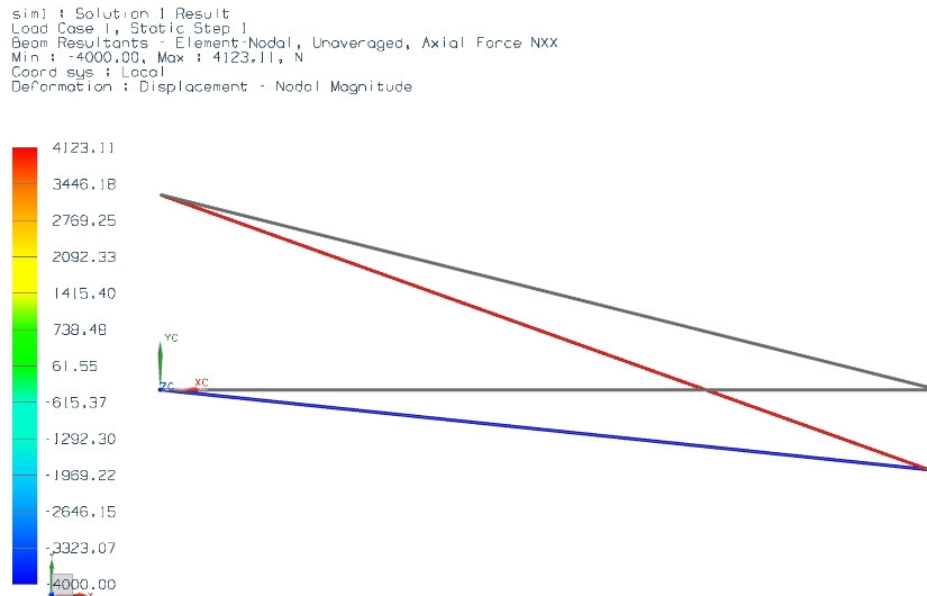

Figure 12. Force Output
- a. In the hand calculations, the force in the top bar should be 4134 N in tension and the force in the bottom bar should be 4011 N in compression. This corresponds closely with the results shown in Figure 12, which show values of 4123 N for the top bar and 4000 N for the bottom bar. Note that the FEA software displays tension as positive and compression as negative values.